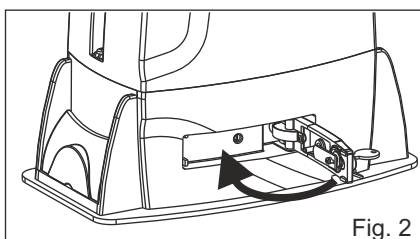

Fig. 2
- 2) Reset the mechanical lock (Fig. 2)